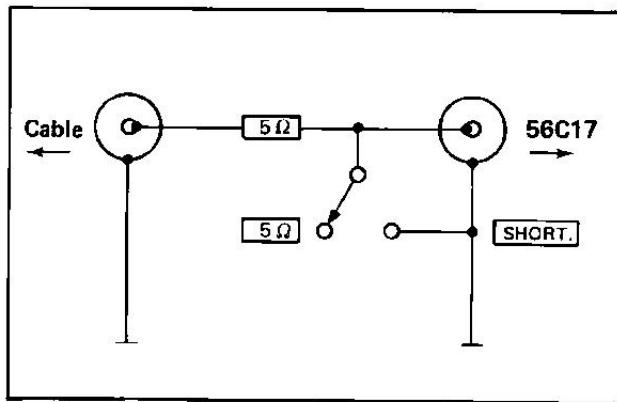

Fig. 8. Adaptor for 56C17 CTA Bridge.
6. To separate the individual resistance components, the cable resistance is measured alone. As 5 and 20 m cables normally have a smaller value than 3 Ω (the smallest value for the BRIDGE ADJ.) the supplied adaptor must be connected between the cable and the CTA bridge with the switch in setting 5 Ω (see Fig. 8). Connect a shorting probe to the free end of the cable.